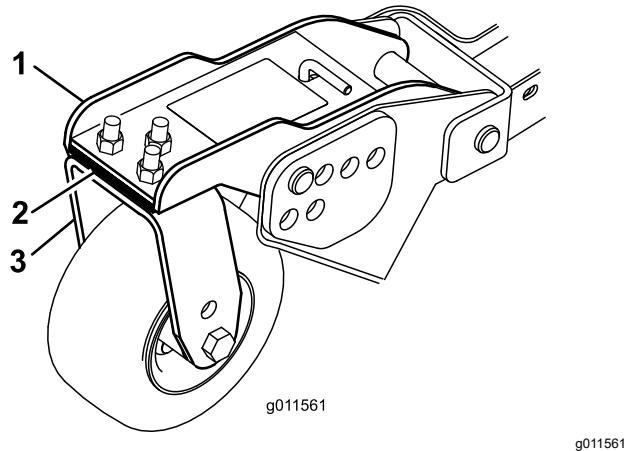

Figure 29
3. Adjust the shims (3 mm or 1/8 inch) on front caster arm(s) to match the height-of-cut decal (Figure 29).
3. If the inside edge of the side cutting unit is too high relative to the outside edge of the front cutting unit, remove a shim from the bottom of the front, inside caster arm on the side cutting unit (Figure 29).